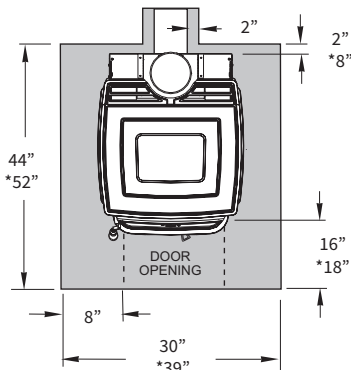

Figure 59. Minimum Hearth Dimensions. * Denotes requirement for Canada.
- In a rear vent installation, floor protection must also extend under the stove pipe a minimum of 2" beyond either side. See figure 59.